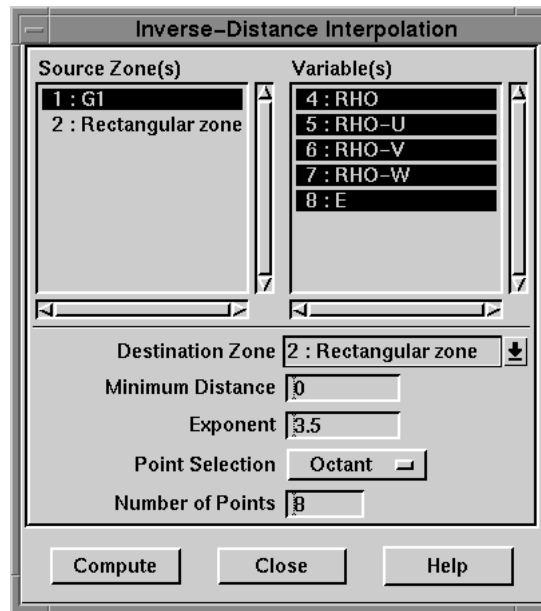

Figure 25-20. The Inverse-Distance Interpolation dialog.
3. From the Data menu, choose Interpolate, then choose Inverse Distance. The Inverse-Distance Interpolation dialog appears, as shown in Figure 25-20.